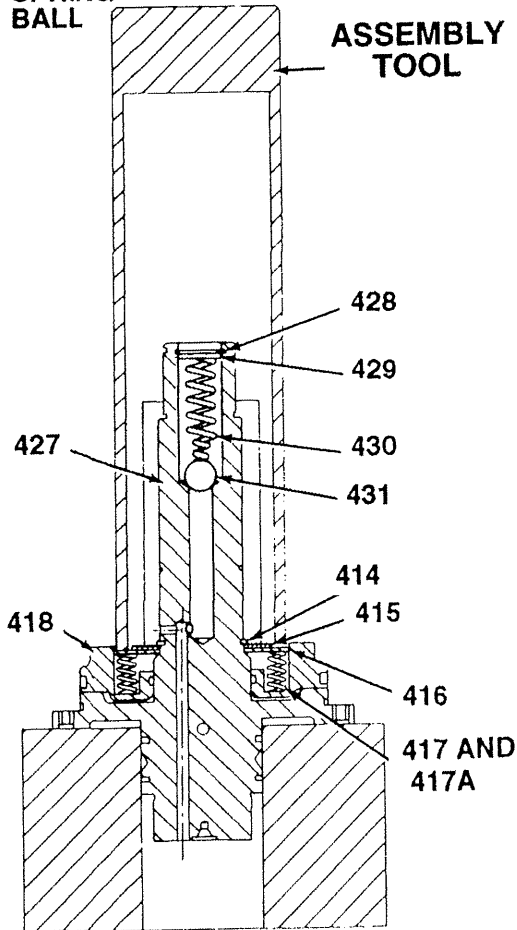

Figure 5-2: Installing Snap Ring
5. Support lay shaft with parts previously installed in suitable holding fixture (see figure 5-2) in arbor press.
6. Install springs (417, and if used 417A) in holes in clutch piston assembly (418) as follows: First install four springs (417) equally spaced. Then install three springs (417A) between each of the springs (417)—twelve springs (417A) total.
7. Install spring retainer (416) and thrust washer (415). Expand snap ring (414) and slide onto shaft up against thrust washer.
8. Press down on spring retainer (416) to compress springs (417 and 417A) and provide access to shaft groove for snap ring (414) (see figure 5-2). Install snap ring in shaft groove. Remove shaft assembly, holding fixture and assembly tool from arbor press. Remove assembly tool from shaft assembly.